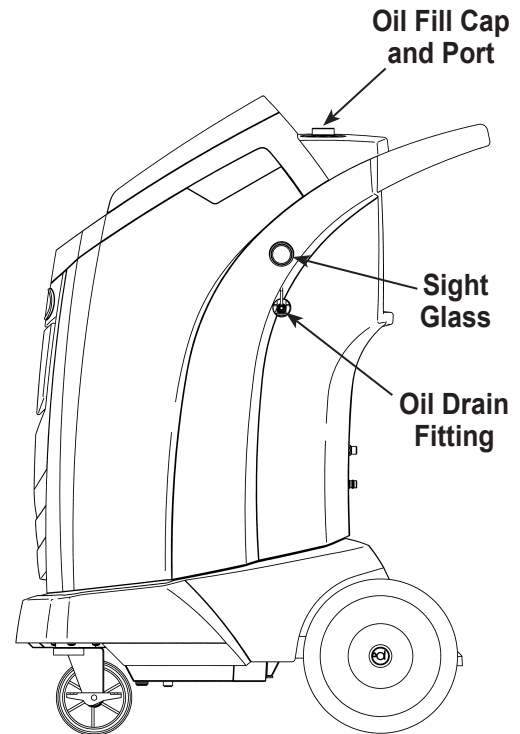

Figure 15
3. After the compressor stops, **slowly** open the oil fill cap to verify there is no pressure in the machine. Then carefully remove the cap. See Figure 15.